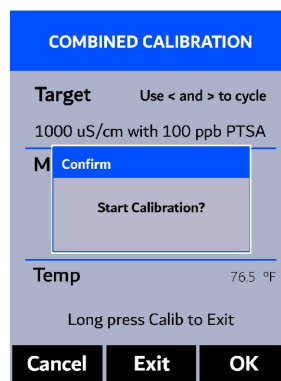

Figure 14.
5. The display updates as shown in Figure 14 and the user can choose one of three options: